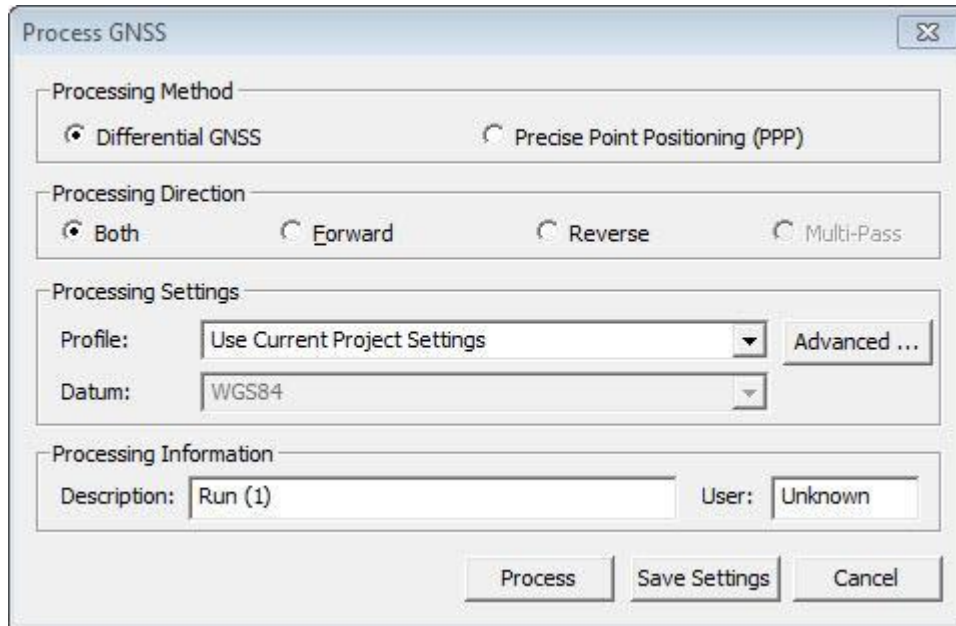

Figure 7-8 Process GNSS Dialog
- In the **Process GNSS** dialog (Figure 7-8):